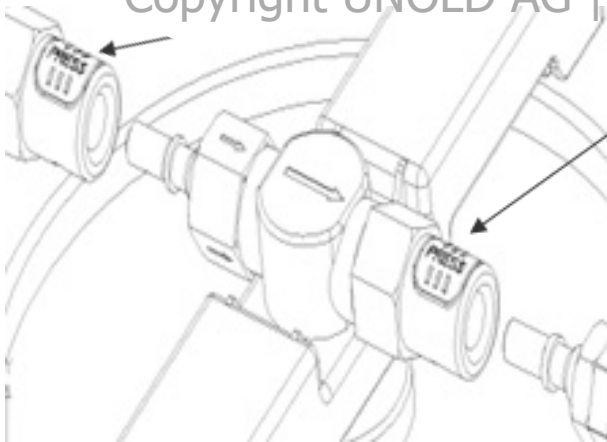

Fig.9
2. Disconnect the CO₂ connection from the piercing unit. Have a glass ready, open the appliance lid and pull the tap down to release the CO₂ remaining in the keg. Additional beer foam may escape. Then remove the beer hose by pressing the white release button (fig. 9). This is easier if you press the two connecting elements together a little while doing so.